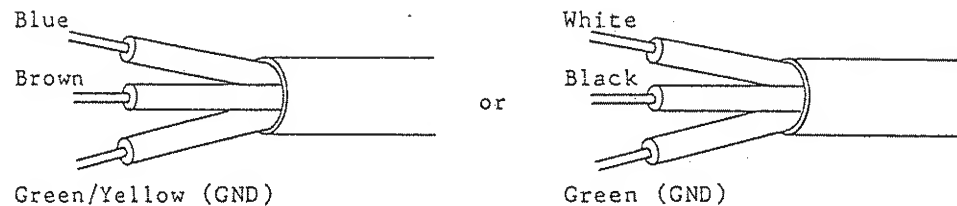

Fig. 1
- ☐ Power Cable: to 3-core cable (See Fig. 1 for the colors.)